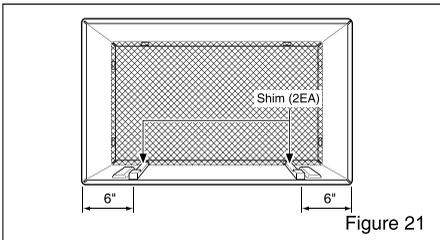

Figure 21
- 7** To achieve rearward slope for unit draining, remove the backing from the $1\frac{11}{16}$ " shim strips and attach them as shown below in Figure 21. The higher portion of shim is to be placed in front of the rib on the base of wall sleeve.